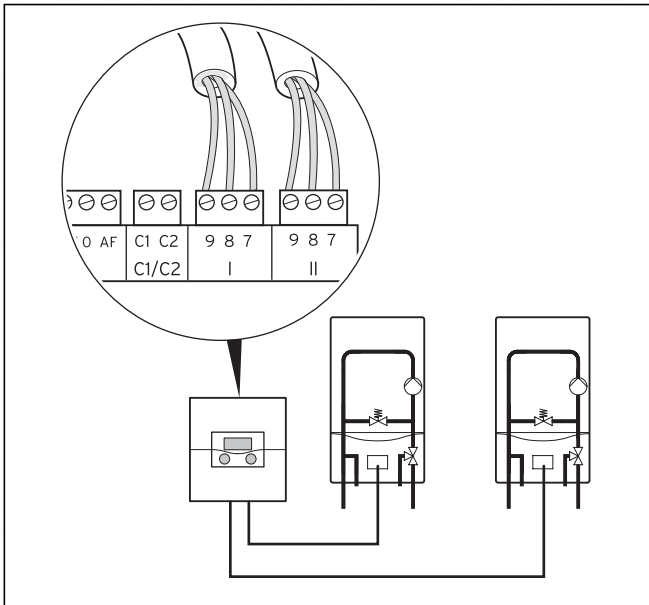

Fig. 5.14 Connecting a double cascade
- Connect a double cascade directly to the wall mount (→Fig. 5.14).